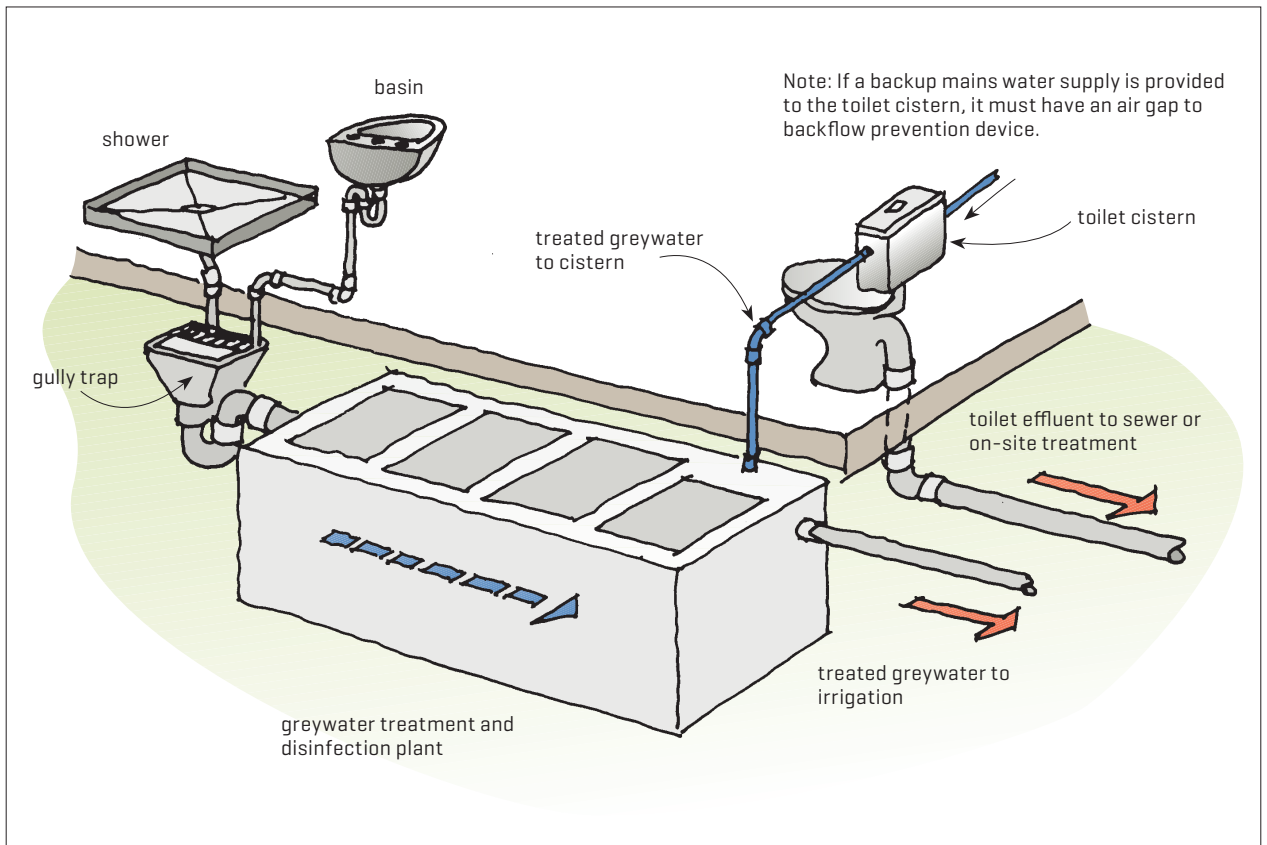

Figure 5. Example of greywater treatment in a proprietary system for use in toilet flushing and irrigation.
7.0.4 Proprietary systems that treat greywater to an acceptable water quality for toilet flushing are available in New Zealand (Figure 5). They are generally multi-chamber tanks that reduce solids by settling, floating and filtering. The water is treated by chlorination or UV and pumped into the toilet cistern. If an on-site wastewater system is also installed, make sure that the chlorination is compatible.